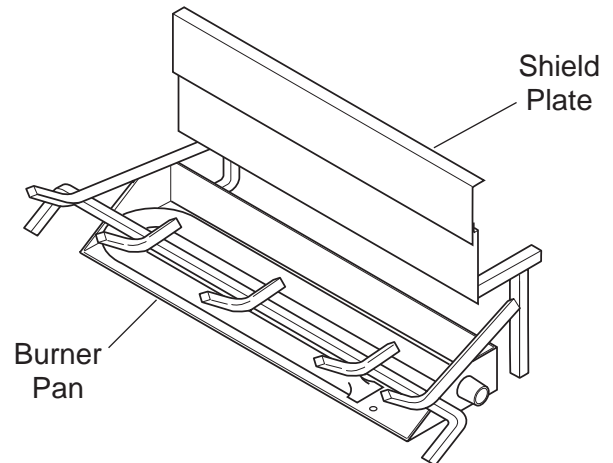

Figure 101 - Sliding Shield Plate Down Back of Burner Pan
1. Slide shield plate down back of burner pan. See Figure 101.